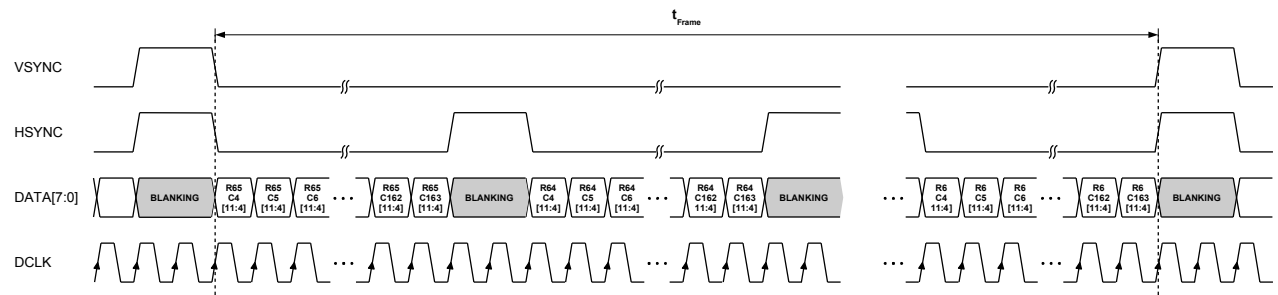

Figure 38: 8-bit mode
- 8-bit mode: Transfers the 8 MSB bits of the pixel data with 1x DCLK. Refer to Table 19 and Figure 38).